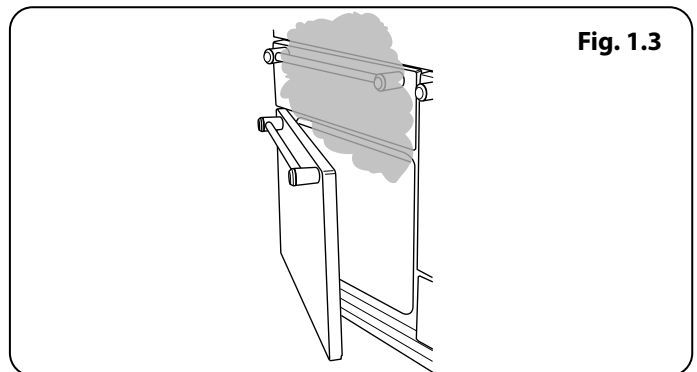

Fig. 1.3
- Cooking high moisture content foods can create a 'steam burst' when the oven door is opened (**Fig. 1.3**). When opening the oven, stand well back and allow any steam to disperse.